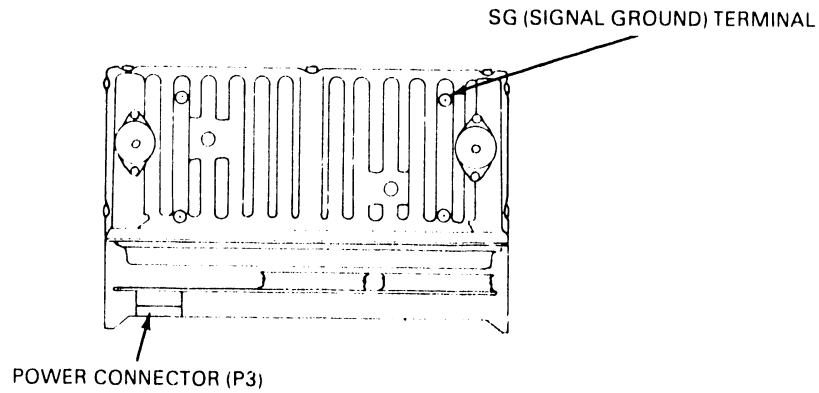

Figure 2-15 Signal Ground and Power Connections
Connect a system ground cable to the signal ground (SG) terminal at the rear of the disk drive (see Figure 2-15).
Connect the power cable to connector P3 at the rear of the disk drive (see Figure 2-15).